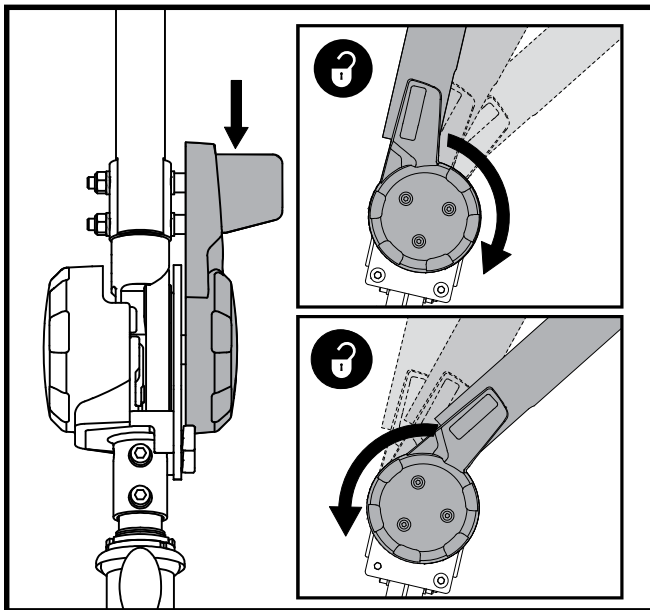

Figure 11. Tiller Adjustment Knob
1. With the seat and battery pack removed (see Disassembly Procedures on previous page), lower the tiller and tighten the tiller adjustment knob. See **figure 11**.
3. Raise the tiller and fully tighten the tiller adjustment knob. See **figure 11**.